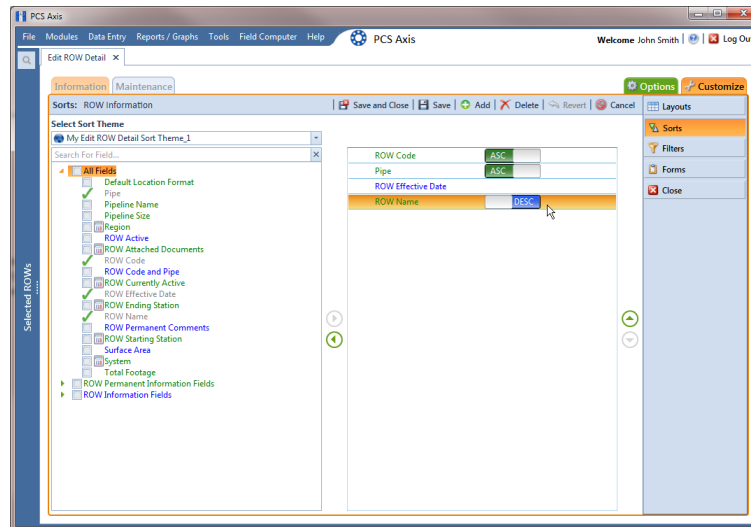

Figure 4-38. Sorts
- 8 Click  **OK** to save changes and return to the *Sorts* page (Figure 4-38, page 174).